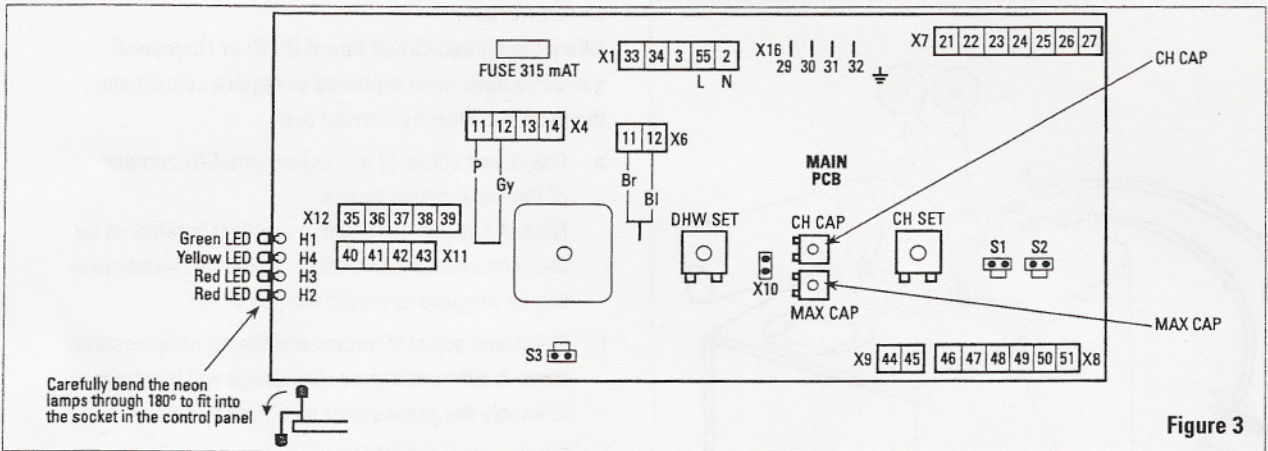
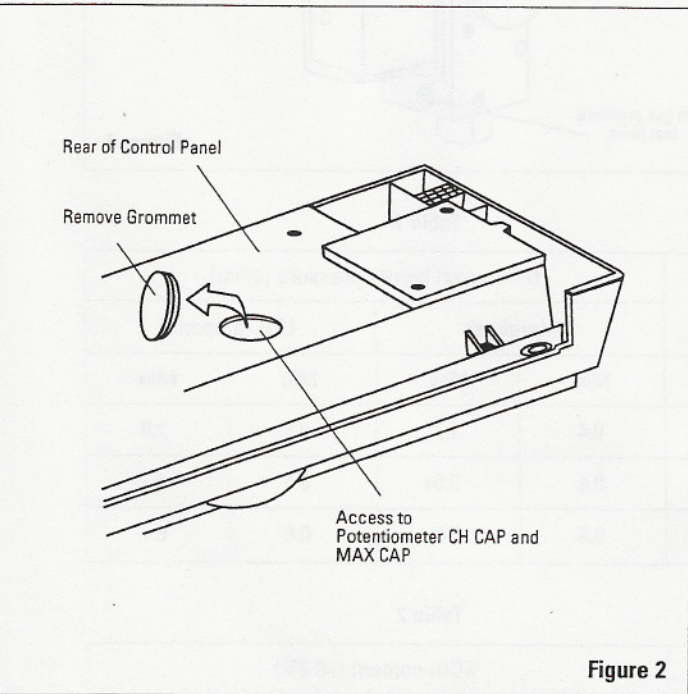
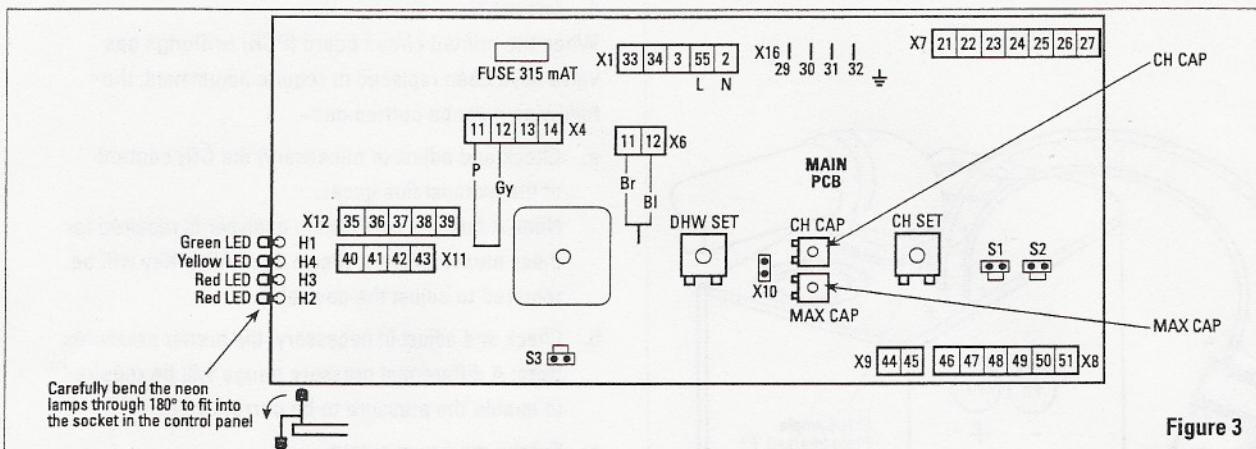

Figure 3
Figure 2
Figure 3
Note: Before fitting the PCB, carefully bend the four neons through 180° so that they locate into the control panel, see Fig. 3.
- Remove the grommet in the rear of the control panel (see Fig. 2) to gain access to the PCB. Using a small screwdriver turn the 'CH CAP' potentiometer fully clockwise to maximum output, see Fig. 3.